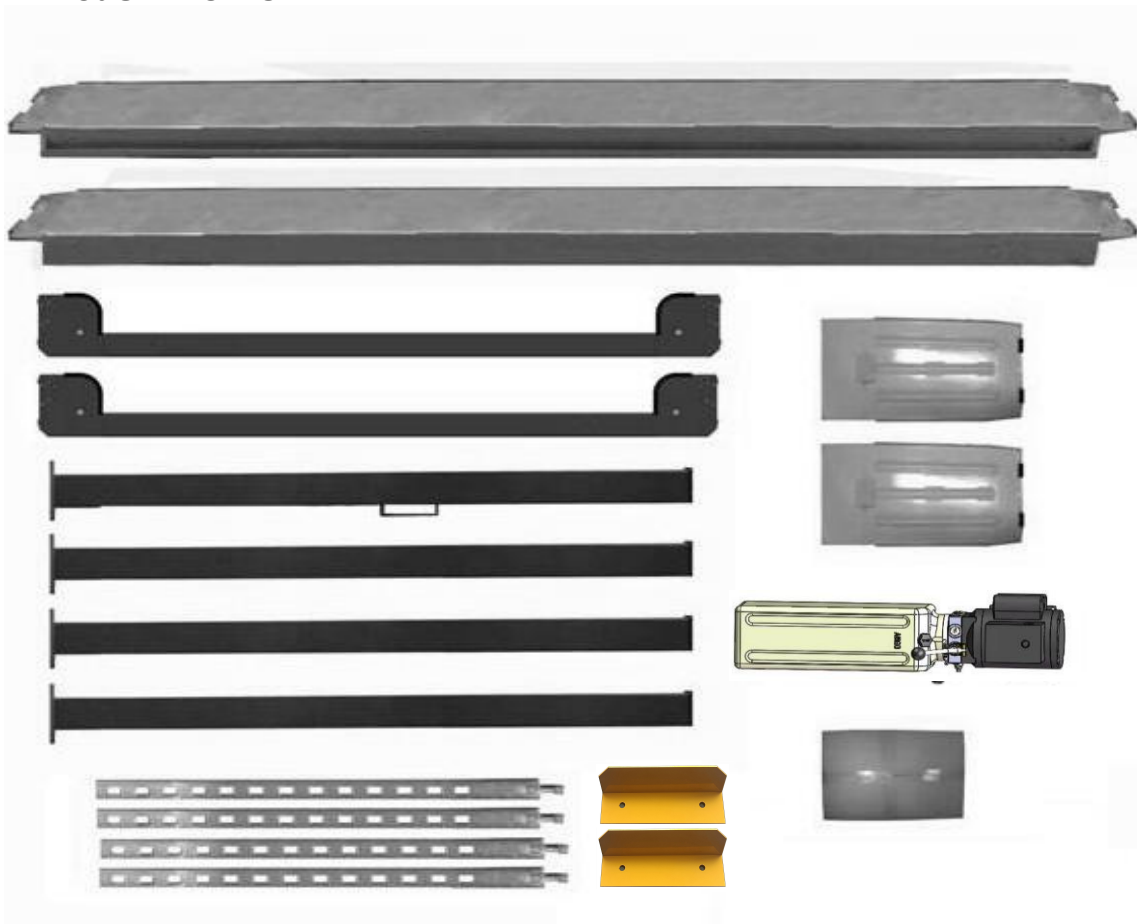
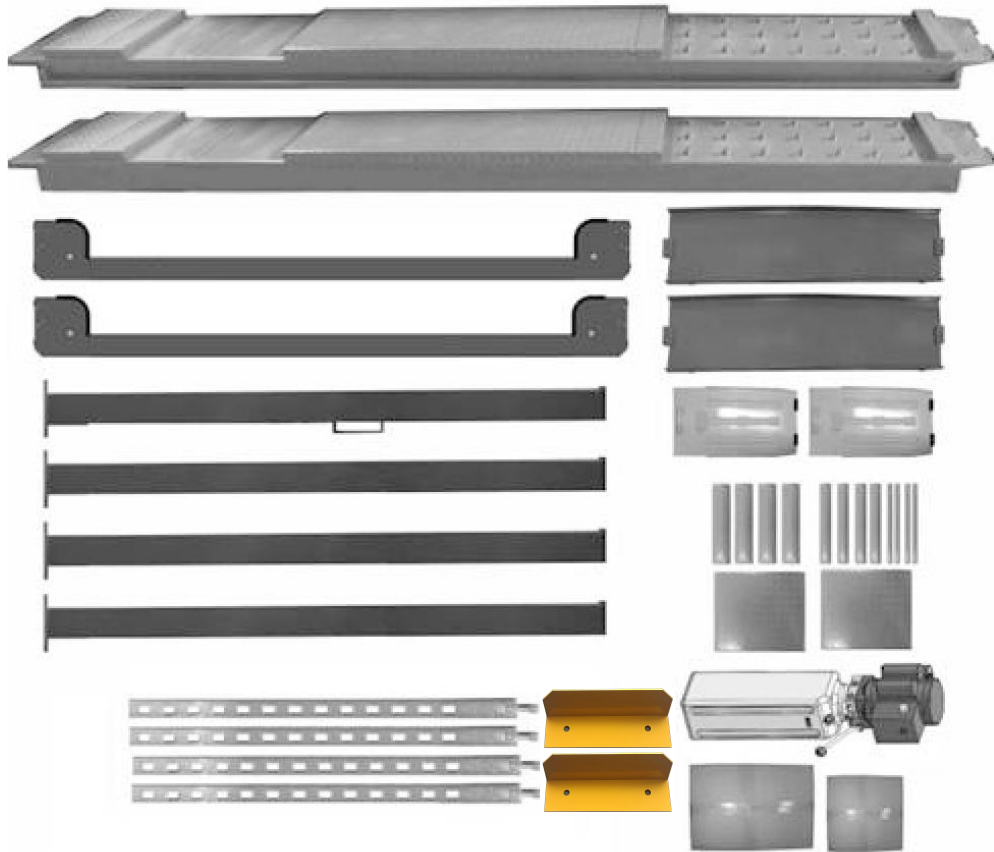

Fig.9
Fig.10
6. Move aside the parts and check the parts according to the shipment parts list (See Fig. 9, Fig. 10).